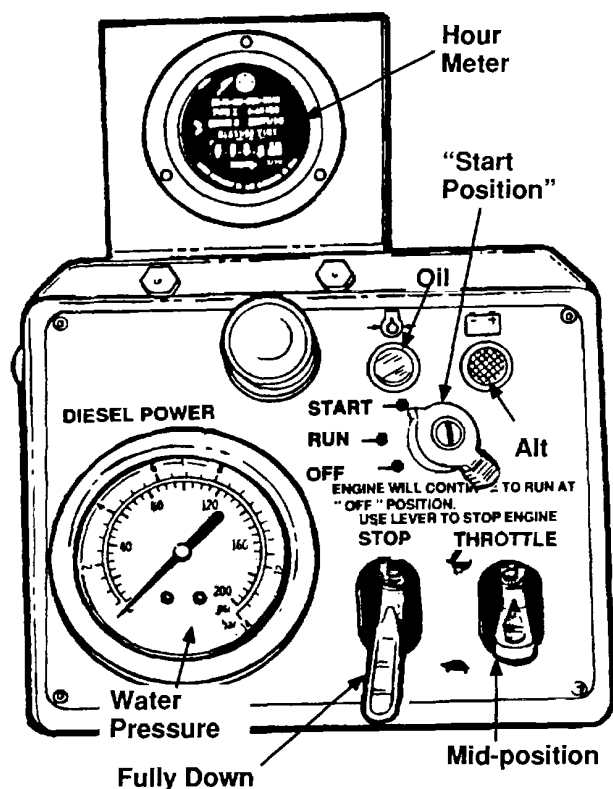

Figure 2-8. Control Panel - Electric Start
- a. Put throttle in mid-position and run-stop lever fully down in run, fig. 2-8.